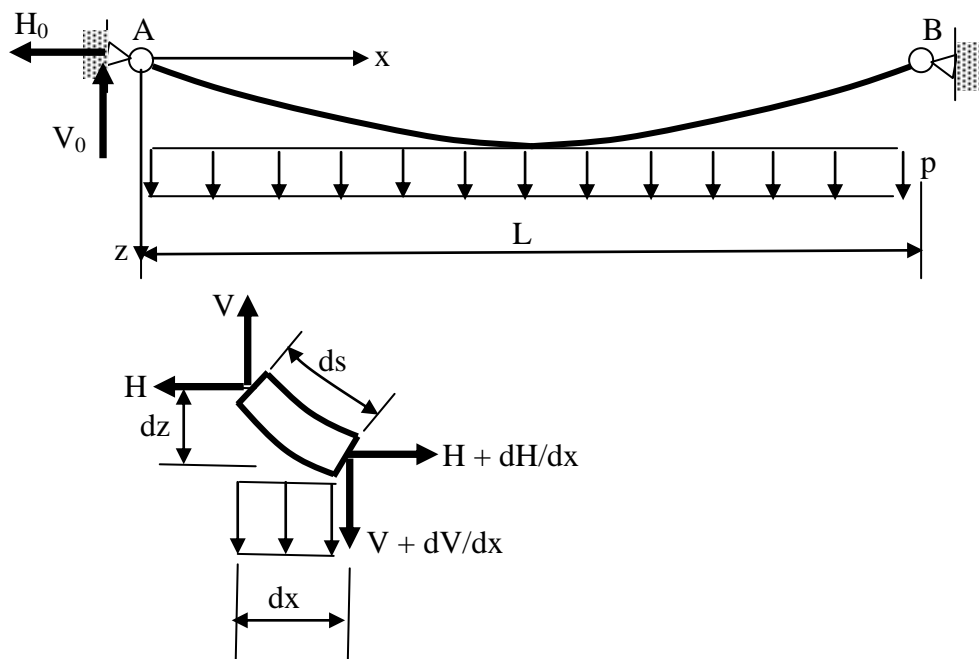

Figure 2
3. (a) Figure 2 shows a cable segment under the action of a load uniformly distributed p along the horizontal span and a corresponding differential cable element. H and V are internal horizontal and vertical forces acting on cable section. H_0 and V_0 are horizontal and vertical reactions at support A where $x = 0$. Show that the deflected profile z will be in the form of a parabolic curve.